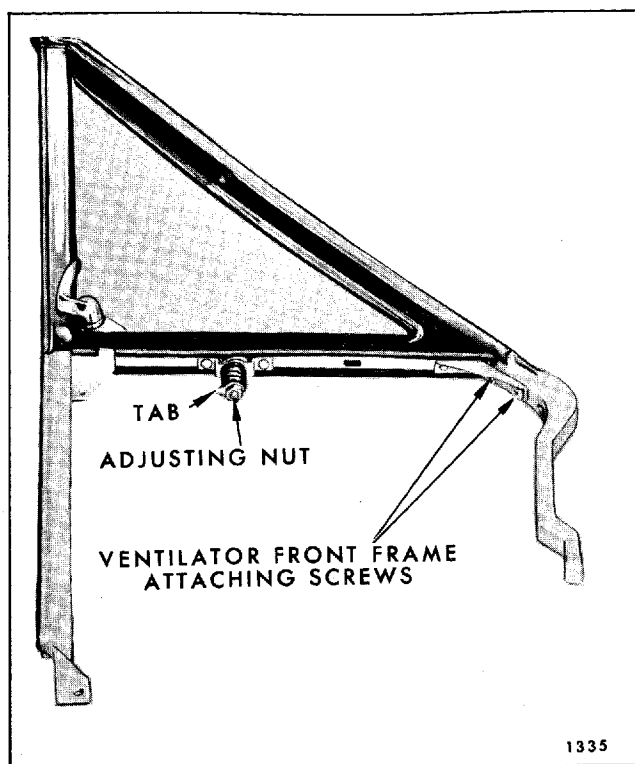

Fig. 7-70—Front Door Ventilator Assembly - "A" Style
2. The effort required to open or close the ventilator can be set by straightening retaining washer tab and tightening or loosening the adjusting nut. Tightening the adjusting nut will increase operating effort and loosening adjusting nut will decrease operating effort. When the desired adjustment has been obtained, bend down washer tab to lock nut in position (See Fig. 7-70).
washer tab and tightening or loosening the adjusting nut. Tightening increases effort and loosening decreases effort. When desired adjustment has been obtained, bend down washer tab to lock nut in position (see Fig. 7-70).